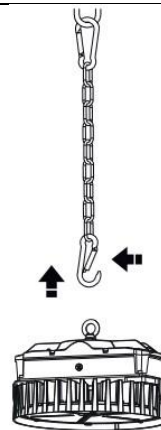

Figure 1
3. Attach the chain to the hook. (Figure 1)